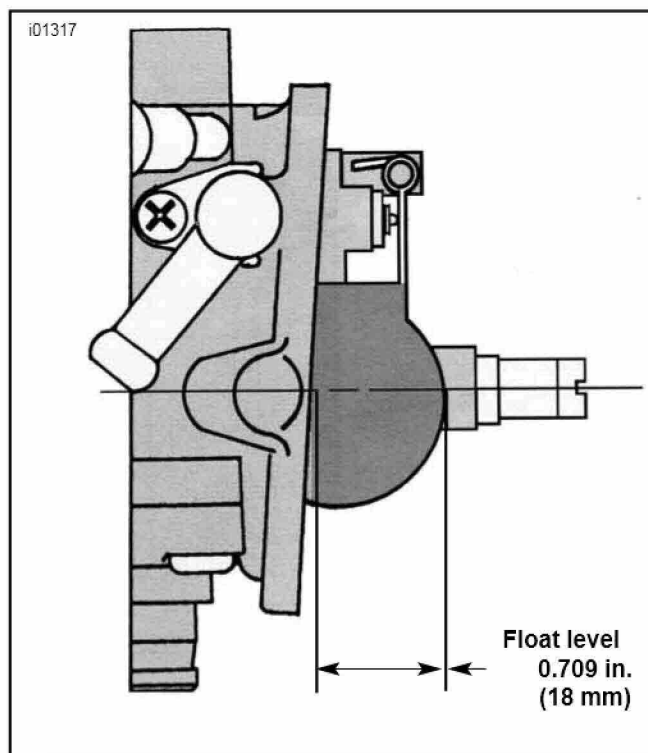

Figure 5. Checking Float Level
7. See Figure 5. Check float level with carb in position shown. The actuator tab should just begin to contact the needle valve assembly when the bottom of the float is 0.709 in. (18mm) from bottom surface of carb.
9. Install new float bowl packing (73) in float chamber body (74). Align holes in float chamber body with pins on carb body and secure with four new screws (78) from kit.
11. Install drain plug O-ring (76) on drain plug (77) and tighten plug to 73 in-lbs (8.2 Nm).